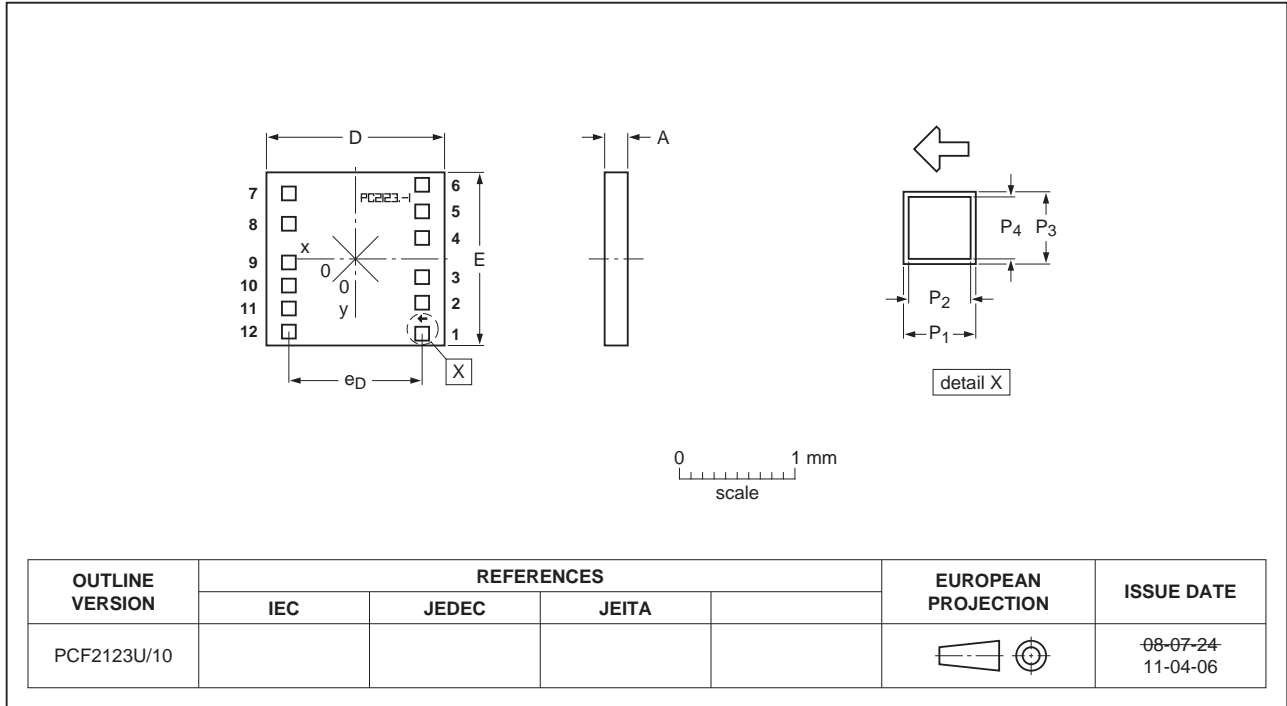

Fig 33. Bare die outline PCF2123U/10 of PCF2123U/5GA/1 and PCF2123U/10AA/1 (for dimensions see Table 47)
All x/y coordinates represent the position of the center of each pad with respect to the center (x/y = 0) of the chip; see Figure 33 and Figure 34.
- [1] The x/y coordinates of the alignment mark location represent the position of the REF point (see Figure 35) with respect to the center (x/y = 0) of the chip; see Figure 33 and Figure 34.